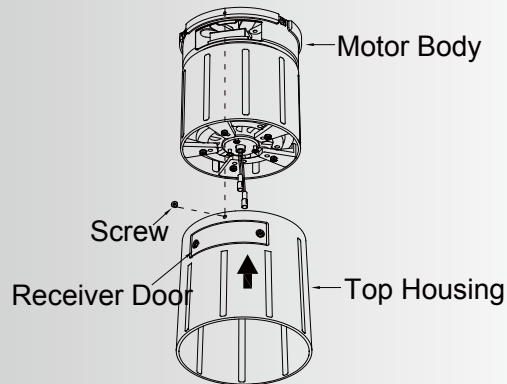

Fig. 13
Step 2. Assemble the top housing onto the motor body using the three screws provided in the hardware bag and securely tighten. (Fig. 13)